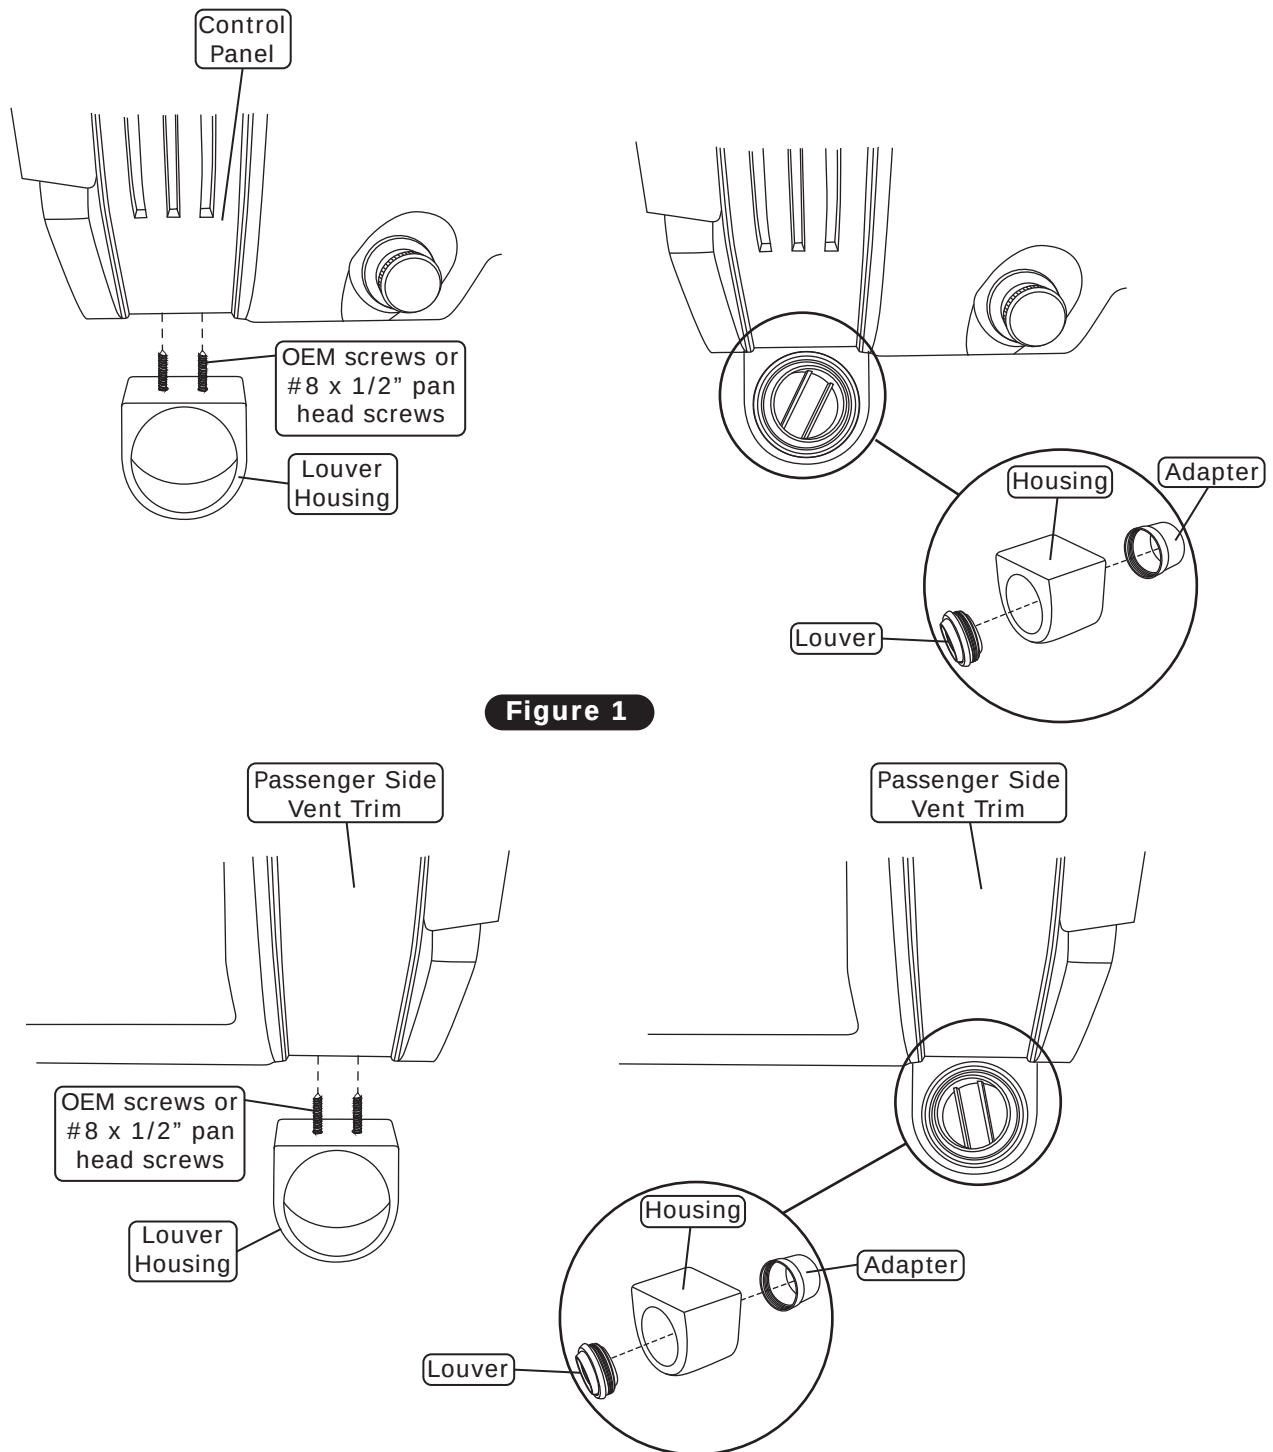

Figure 1
1. Install the driver- and passenger-side louver housings under the dash using either the OEM screws or the supplied (4) #8 x 1/2" pan head screws (See Figure 1, below).
2. Install the louvers into the driver- and passenger-side louver housings as shown in Figure 1, below.